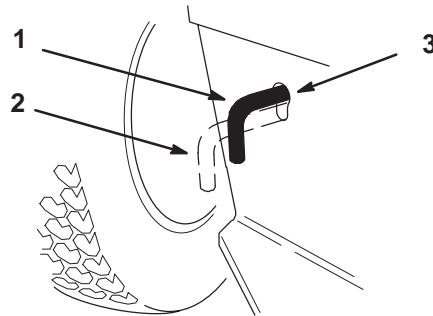

Figure 14
2. Move the drive control rod to the **push** position. This disengages the drive system and allows the wheels to turn freely (Fig. 14).
1. Move the drive control rod to the **operate** position (Fig. 14).